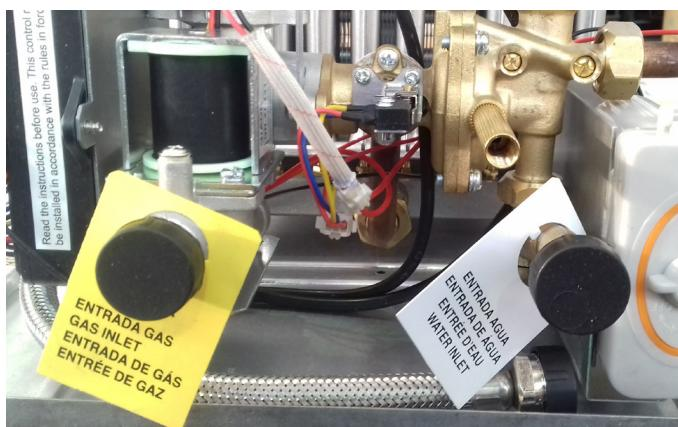

fig. 7 - Connection cards
- Remove the plugs from the water and gas connections (see fig. 7).